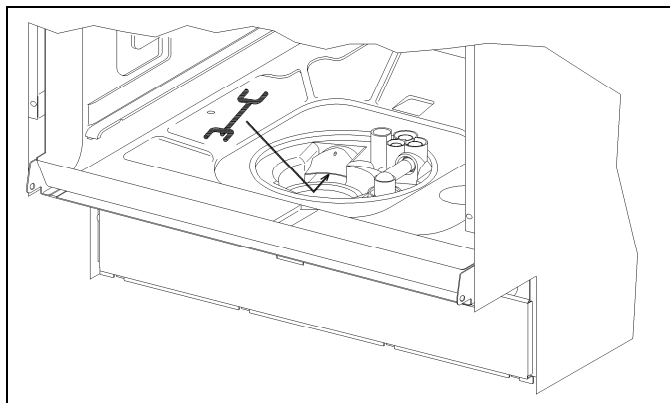

Figure 5-29: Sliding the Circulation Pump Tool into the Circulation Pump Intake Opening
3. Slide the releasing tool's prongs horizontally into the circulation pump intake opening as far as possible. See Figure 5-29.